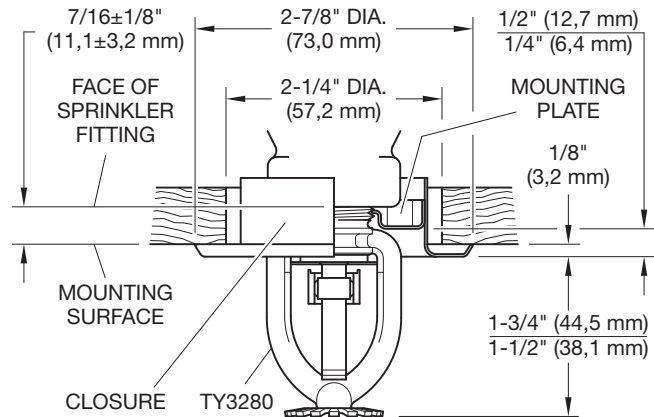

FIGURE 5
- 5.6K sprinkler, and a two-piece Style 20 (1/2 in. NPT) Recessed Escutcheon where applicable, as shown in Figure 5.